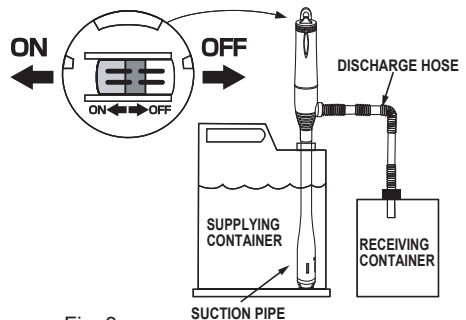

Fig. 3
4. Both containers should be on a flat, level and stable surface. (See Fig. 3)
5. Slide the "ON/OFF" switch on top of the pump to "ON". (See Fig. 3)
7. The "ON/OFF" switch located on the top of the handle has directions for usage. (See Fig. 3)